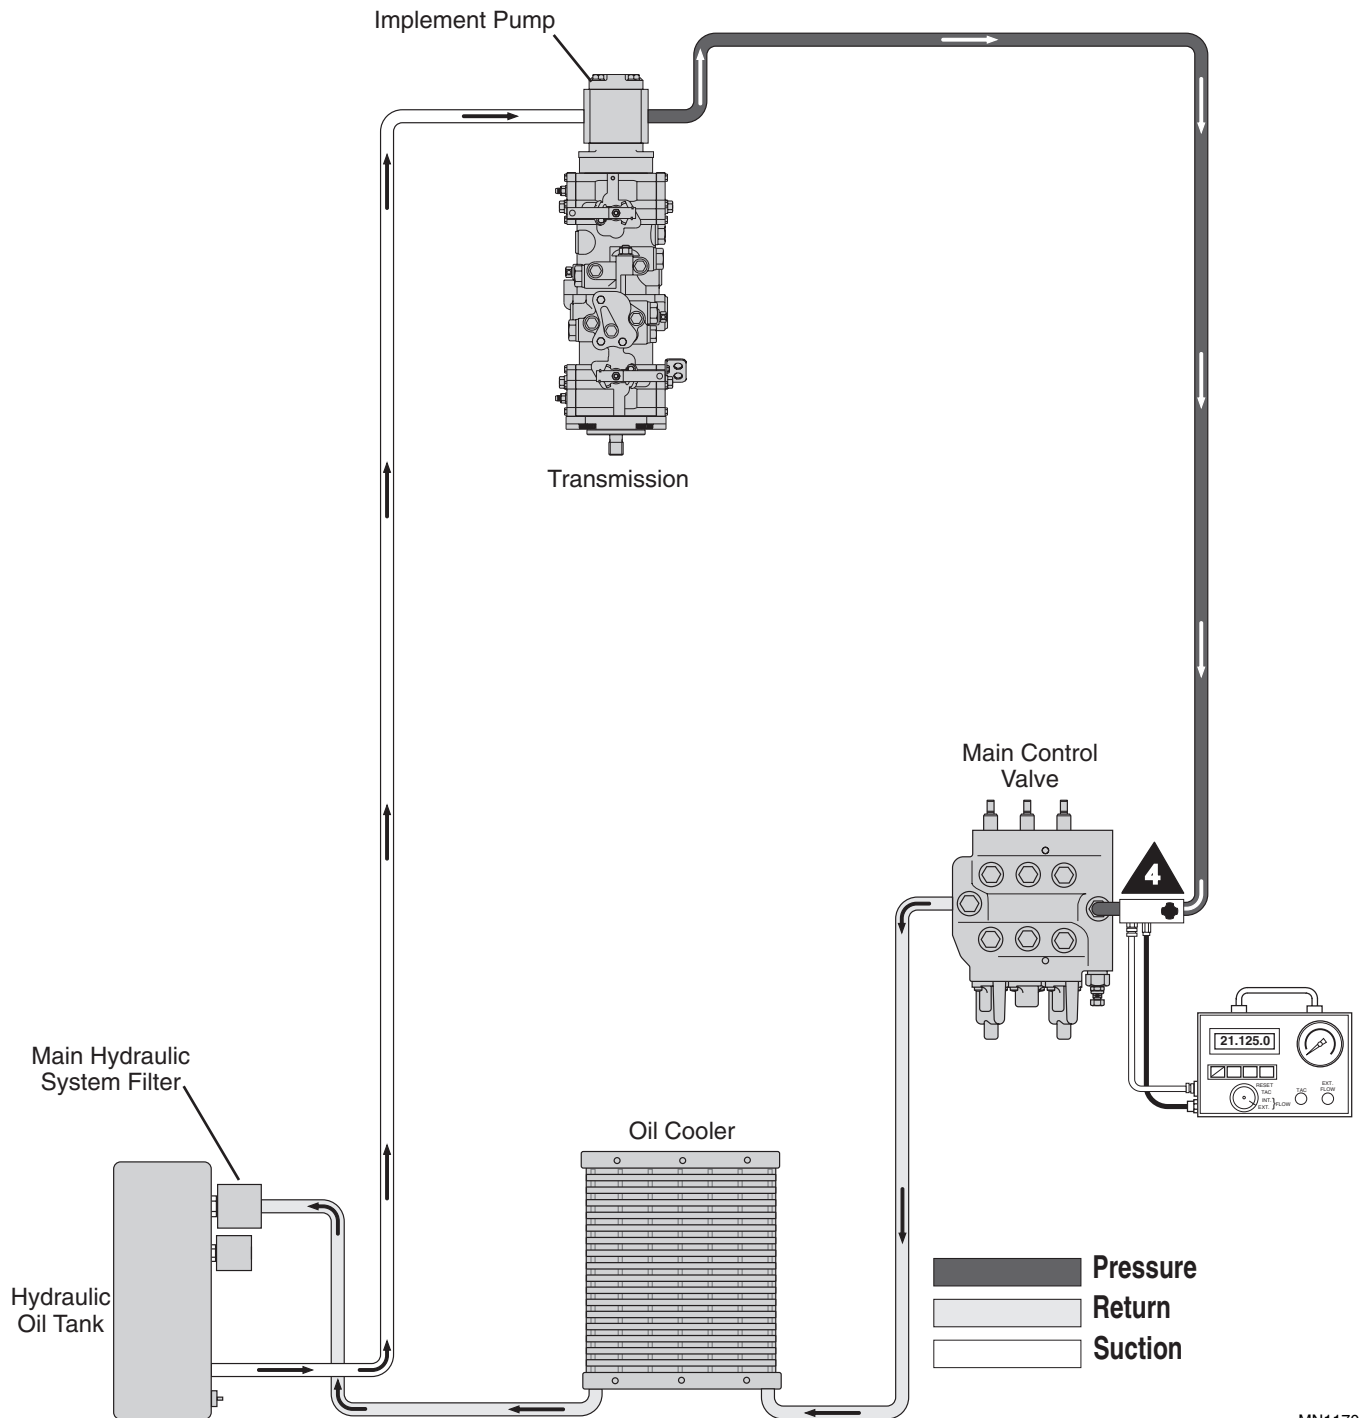

Figure 3-14 Model 2000D/DX & 2300D/DX Implement Pump Flow Displacement Test
3. Implement Pump flow displacement test (Refer to Section 3.4.4, Fig. 3-14)